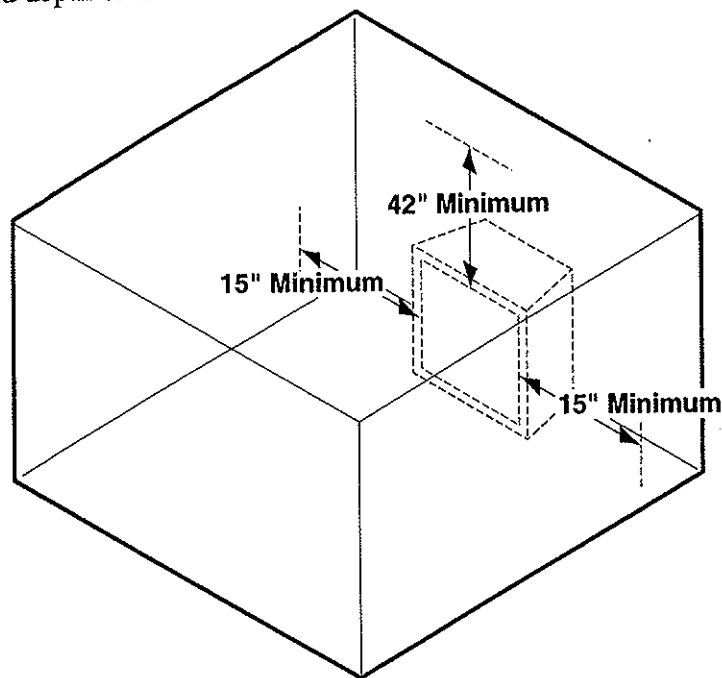

Figure 9
Ensure that minimum clearances shown in *Figure 9 through 10* are maintained. Left and right clearances are determined when facing the front of the firebox.
1. **Sidewall clearances:** the clearance from the inside of the appliance to any combustible wall should not be less than 15" (*refer to Figure 9*).
2. **Ceiling clearance:** The ceiling must be at least 42" from the top of the firebox opening (*refer to Figure 9*).